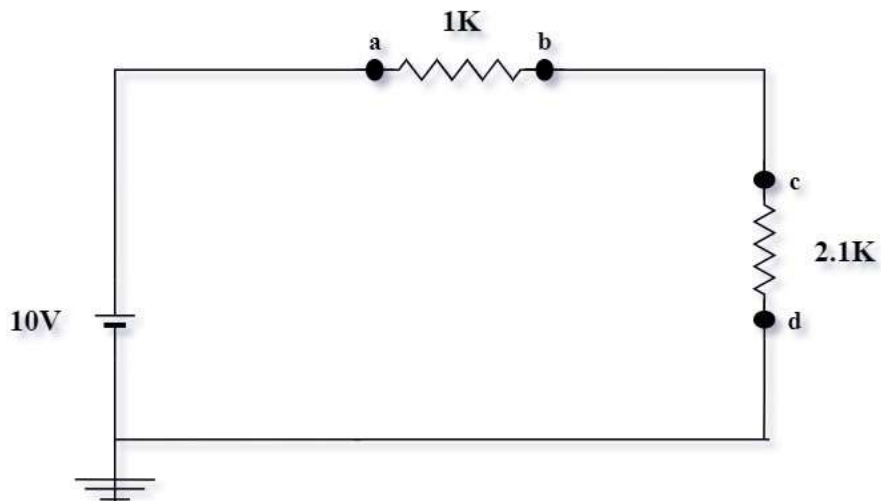

Figure 3: Circuit schematic to perform the 2nd step of the experimental procedure
2. Now, we need to construct the following circuit (Figure 3). Then we need to theoretically calculate R_T (total resistance), I (total Current), V_{ab} , V_{cd} , V_a , and V_b . Then we calculated the same quantities using the multimeter and complete the table Table-2 provided below.